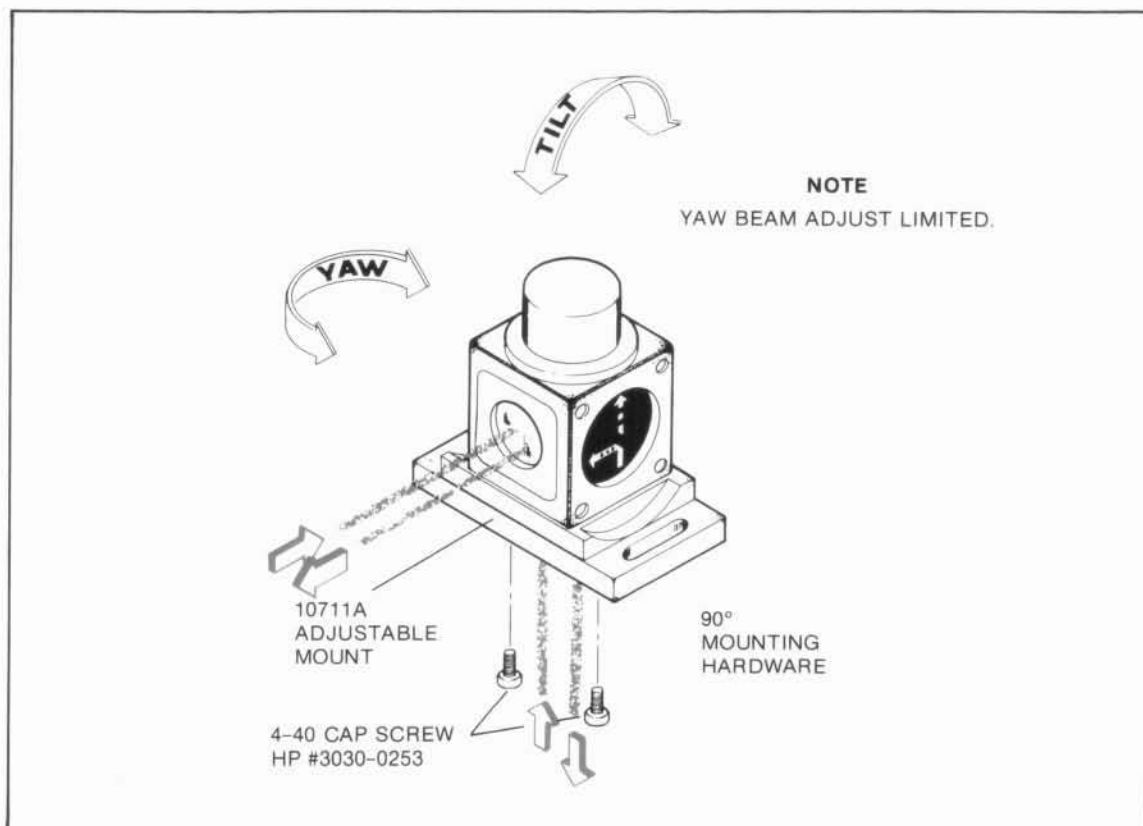

Figure 6-14. Vertical Plane Mounting Using the HP 10711A Adjustable Mount
- Figure 6-14* shows how to mount the linear, plane mirror, or differential interferometer in the vertical plane using the HP 10711A Adjustable Mount.